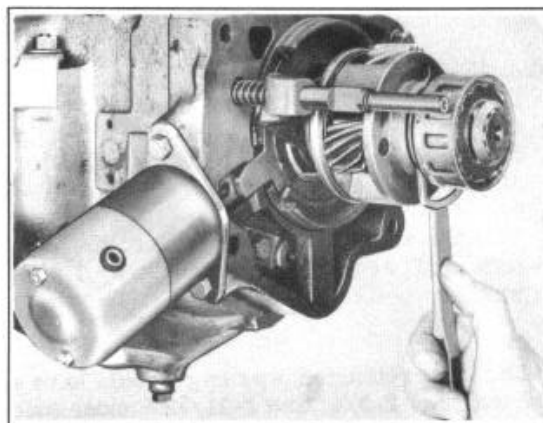

FIGURE 24
2. Install the pinion cage and the clutch cam assembly on the main shaft and secure the assembly in place with the retaining clip, Figure 24.